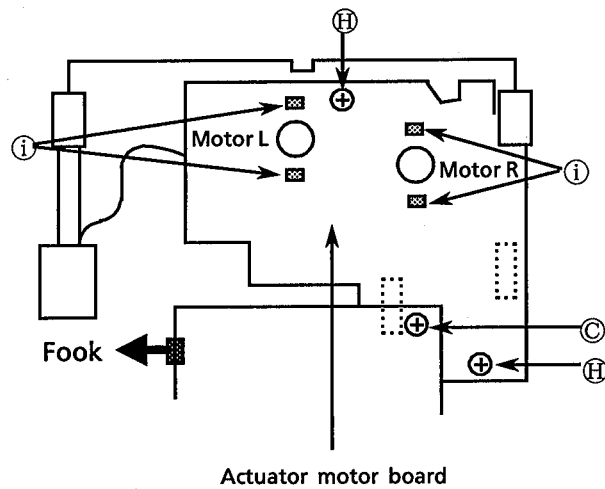

Fig. 18
1. Unsolder 4 soldered point ① for both motors. (See Fig. 18.)
2. Remove a screw ④ securing the CD servo board. (See Fig. 18.)
4. Remove 2 screws ③ securing the actuator motor board. (See Fig. 18.)